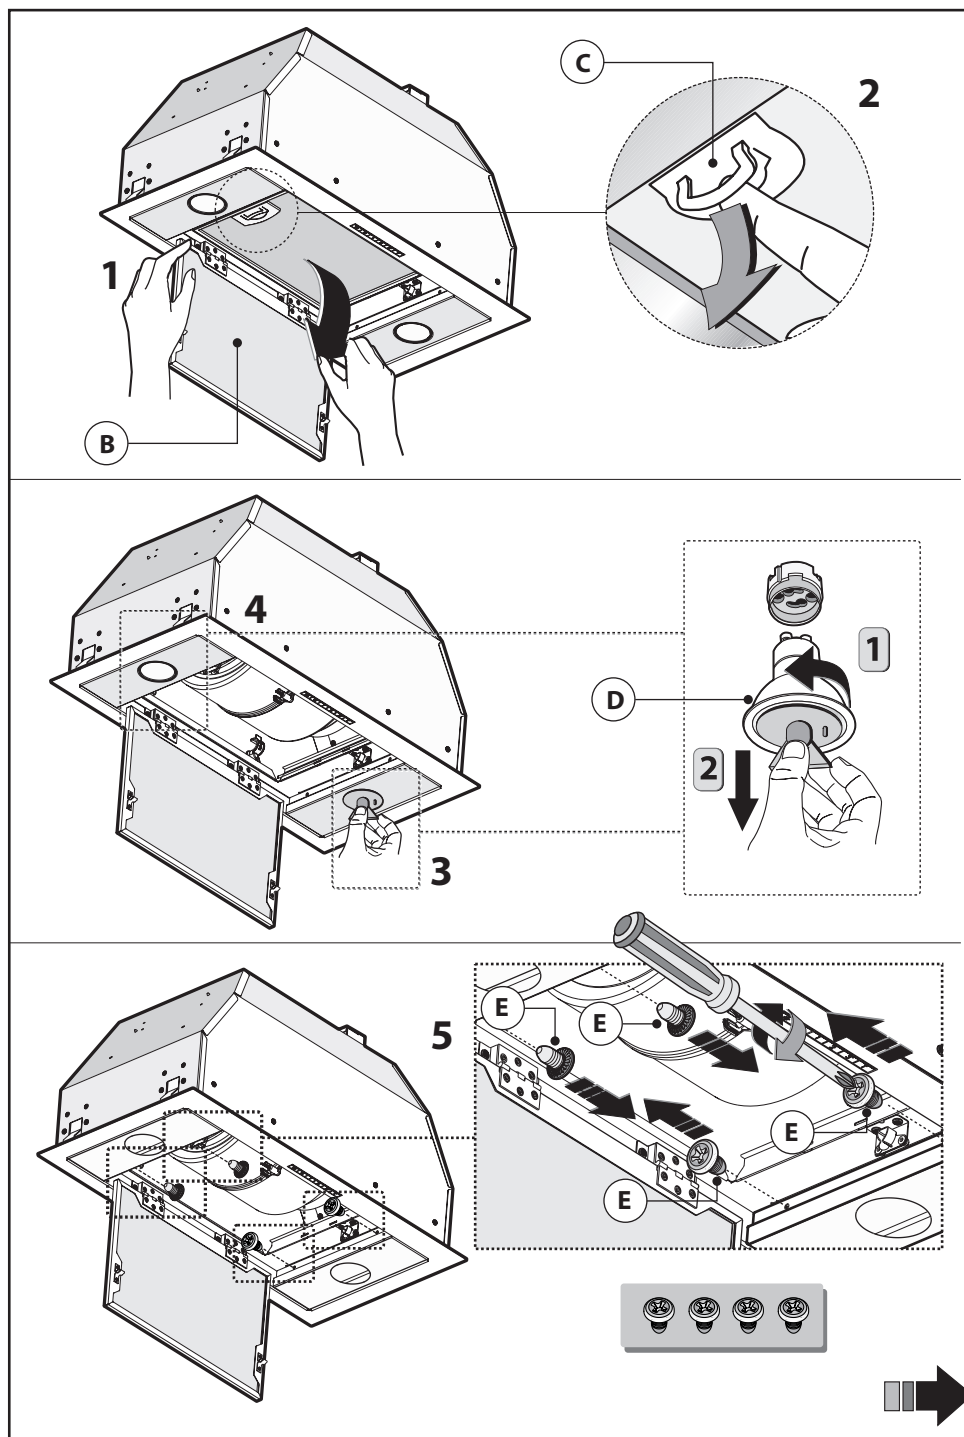

Fig.3
- Open panel **B** as indicated in **Fig.3 - step 1**.
- Pull handle **C** as indicated in **Fig.3 - step 2**.
- Remove the two light bulbs **D** turning them counterclockwise by means of a suction cup, as indicated in **Fig. 3 - step 3-4**.
- Remove the 4 screws **E** which secure the two light fixtures **H** (right and left) of the hood as indicated in **Fig.3 - step 5**.